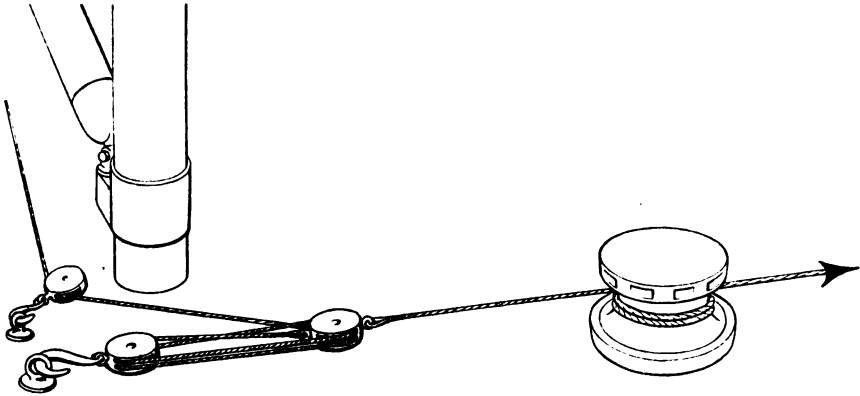

Fig. 186.—Dutchman's purchase
(13) *A Dutchman's Purchase* (Fig. 186) is a tackle used in reverse to take advantage of the velocity ratio of the tackle; an example of its use is to drive a light whip at a fast speed from a slow but powerful capstan.
In the example illustrated in Fig. 186, the whip would move a distance of 5 feet for every foot travelled by the moving block. When using a tackle in this manner it should be borne in mind that the sheaves of the blocks will revolve faster than normally and that the friction will therefore be greater.